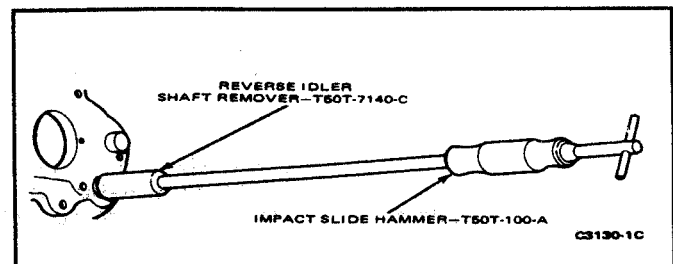

FIG. 11 Removing Reverse Idler Gear Shaft
13. Remove the reverse idler gear shaft, using the tools, T50T-100-A and T50T-7140-C, as shown in Fig. 11.